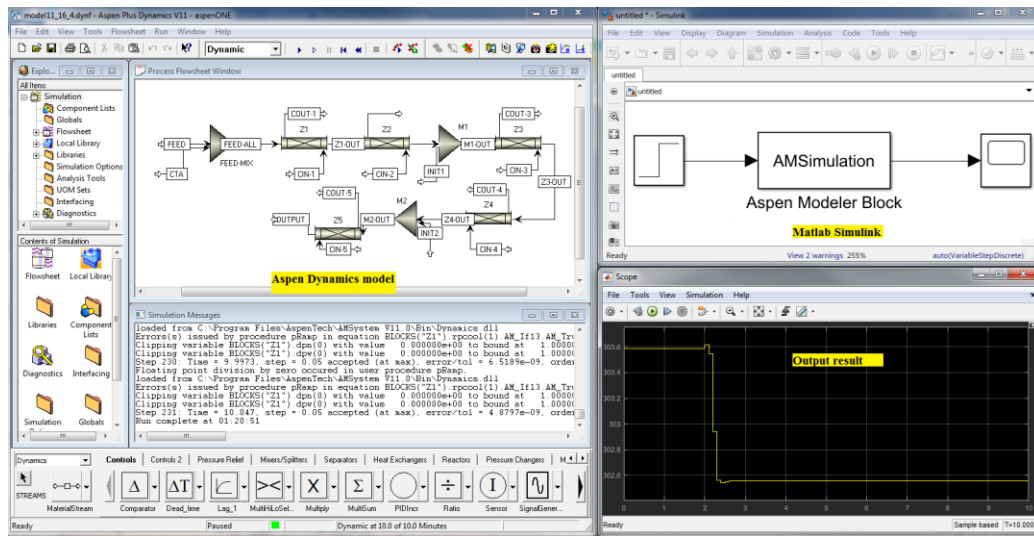

Figure 5
8. By right, both of the software will run simultaneously as shown in Figure 5. Based on the figure, the Step change input is entering the AMSimulation block (represent the Aspen Dynamics model), which has resulted the output temperature to drop. This conclude the tutorial.